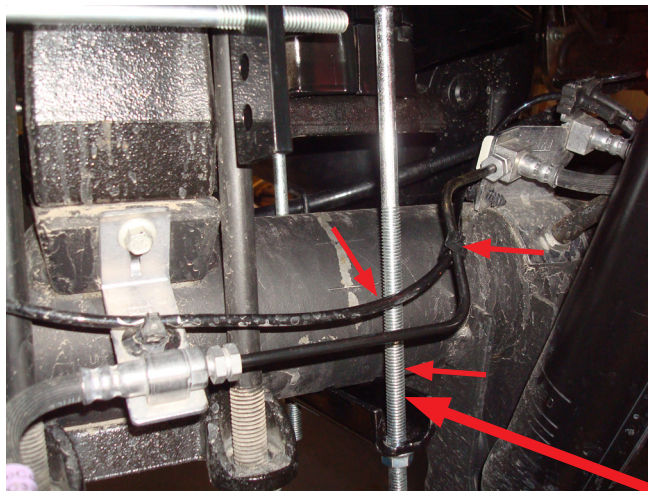
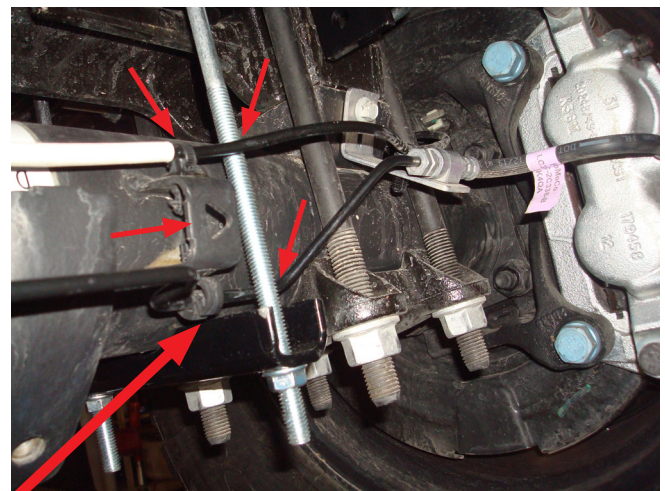

Fig. 22
Fig. 23
On the driver's (left) side, the long carriage bolt in the lower bracket main plate should be located between the hard brake line and axle (Fig. 22). On the passenger's (right) side, the carriage bolt should be located on the backside of the brake line (Fig. 23).
*On the passenger side, it may be necessary to pull the ABS tree mount out of the top of the bracket. Re-attach by installing the tree mount to the back (Figs. 22 & 23).*
**PUSH THE HARD BRAKE LINE AWAY FROM THE LOWER BRACKET CARRIAGE BOLT IF THE LINE IS RESTING ON IT (FIG. 22 & FIG. 23).**